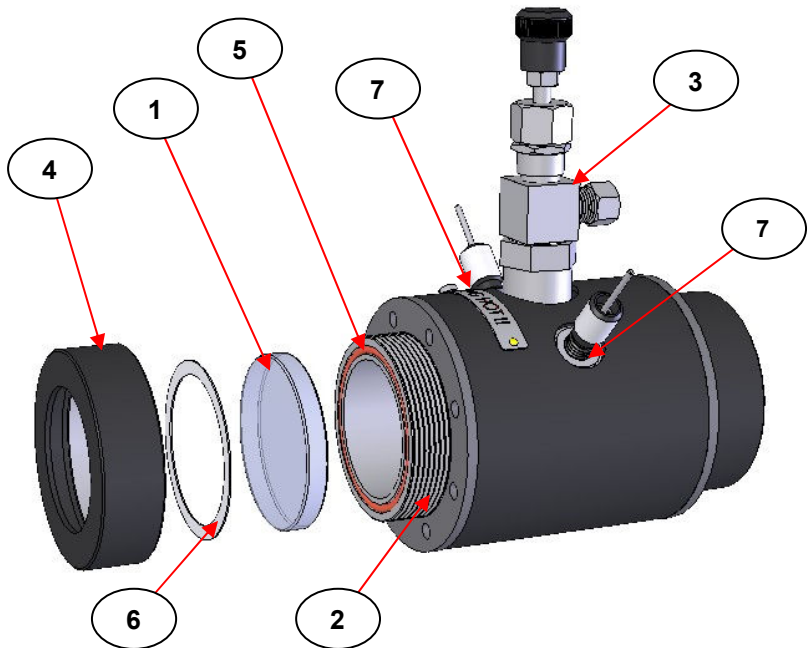

Fig 3. Sequence of Silicone O-Ring, PTFE Gasket and Window Fitting in Storm™ 10H Heated Gas Cell
A pair of windows (1) for the Storm™ 10H Heated Gas Cell are fitted into position as seen from Fig 3.
For this build configuration of the Storm 10H Heated Gas Cell it is constructed as seen at **Figs 3, 4 and 11**.